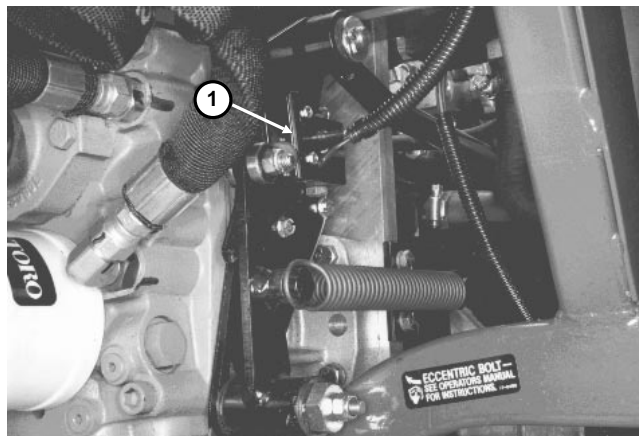

Figure 30
1. Remove the two wires that are connected to the traction switch (Fig. 30).
2. Have a helper push the traction pedal down into either the FORWARD or REVERSE position; this will take the switch arm tension off of the switch. Loosen two (2) screws and remove the switch.